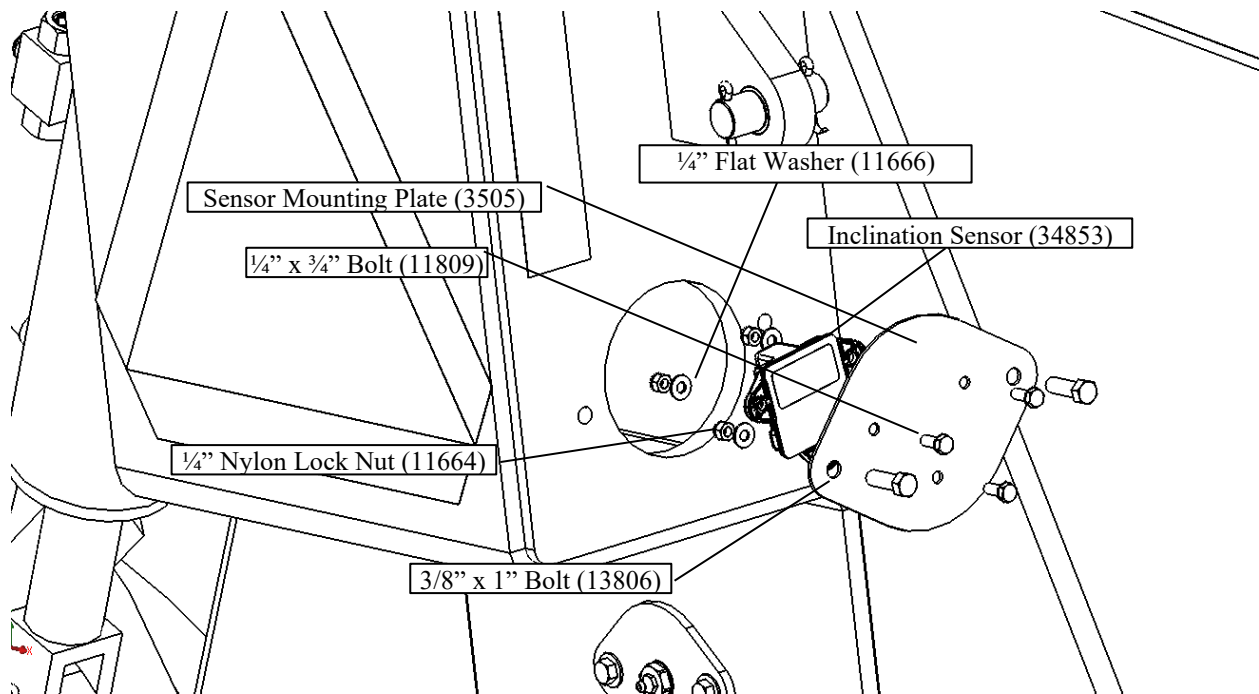

Figure 3.43 Back Axle Sensor plate
- e) To install the Main Frame inclination sensor (34853), bolt the sensor to mounting plate (34853) as shown in figure 3.43 and connect to sensor wiring. **Note: Maximum torque of 30 in-lbs on 1/4" bolts that mount sensors to the mounting plate.**